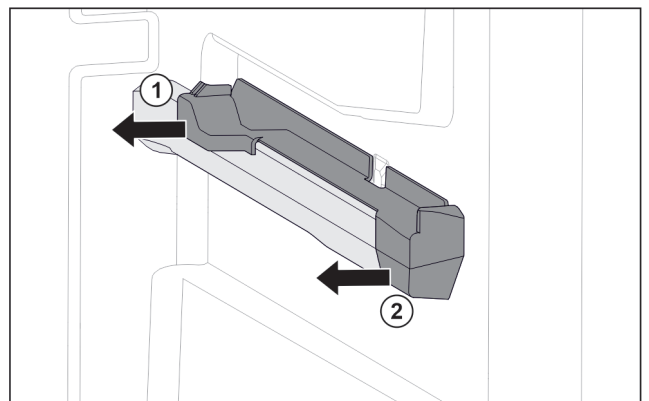

Fig. 71 Attachment on the right moulded rib
- ▶ Pull off attachment at the back sideways. Fig. 71 (1)
- ▶ Pull off attachment at the front sideways. Fig. 71 (2)